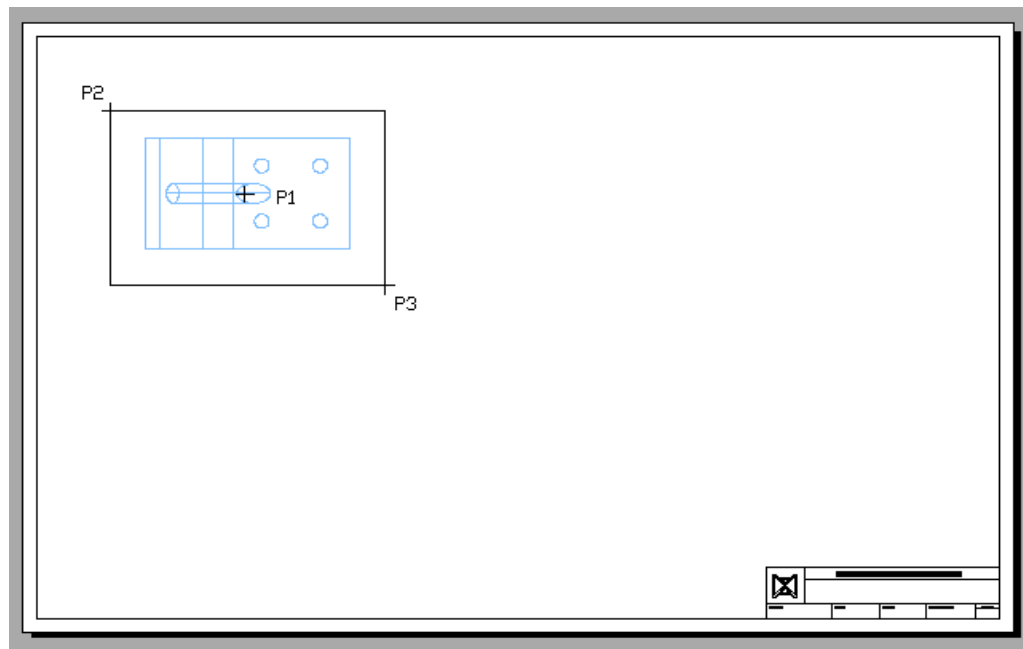

Figure Step 8
Step 8 Enter the SOLVIEW command shown below to create the top view of the model. See Figure Step 8.